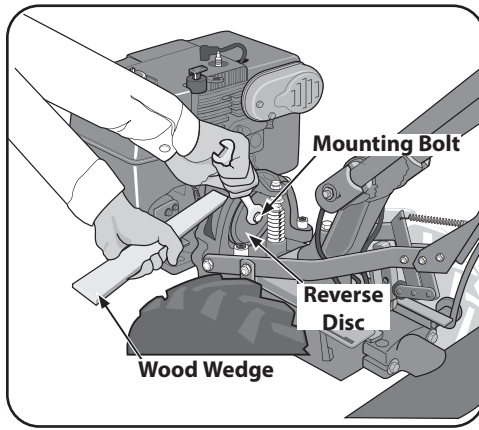

Figure 5-30
3. Use a 9/16" wrench to loosen the mounting bolt shown in Figure 5-30. Remember to immobilize the pulley with the wood wedge while loosening the bolt. If necessary, pry the disc from the pulley with the tip of a screwdriver. Back the bolt out as far as possible. Then angle the disc a little to remove it. Bring the bolt and lockwasher along with the disc. Installing a new reverse disc.